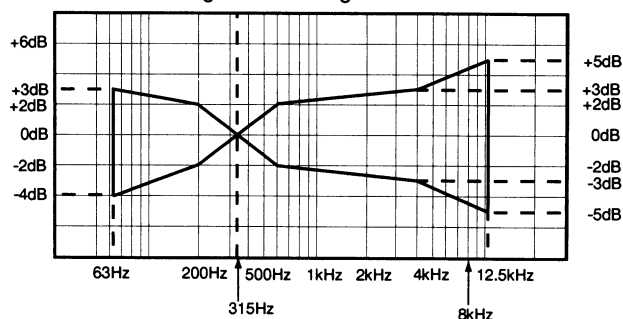

Fig. 8
2. Playback the 315 Hz/–20 dB and 12.5 kHz to 63 Hz/–20 dB sections of the test tape (QZZCFM) and then, using the 315 Hz/–20 dB playback output as a reference (0 dB), confirm that the playback frequency response is within the range shown in Fig. 8.